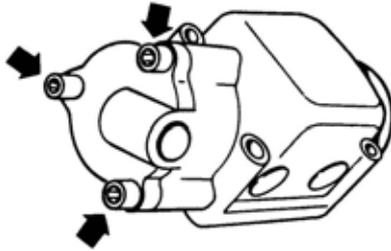

Figure 8 Air Inlet Cover Retaining Bolts
- a. Remove the three socket-head bolts from the air inlet cover, shown in Figure 8, and remove the cover. Discard the O-ring.